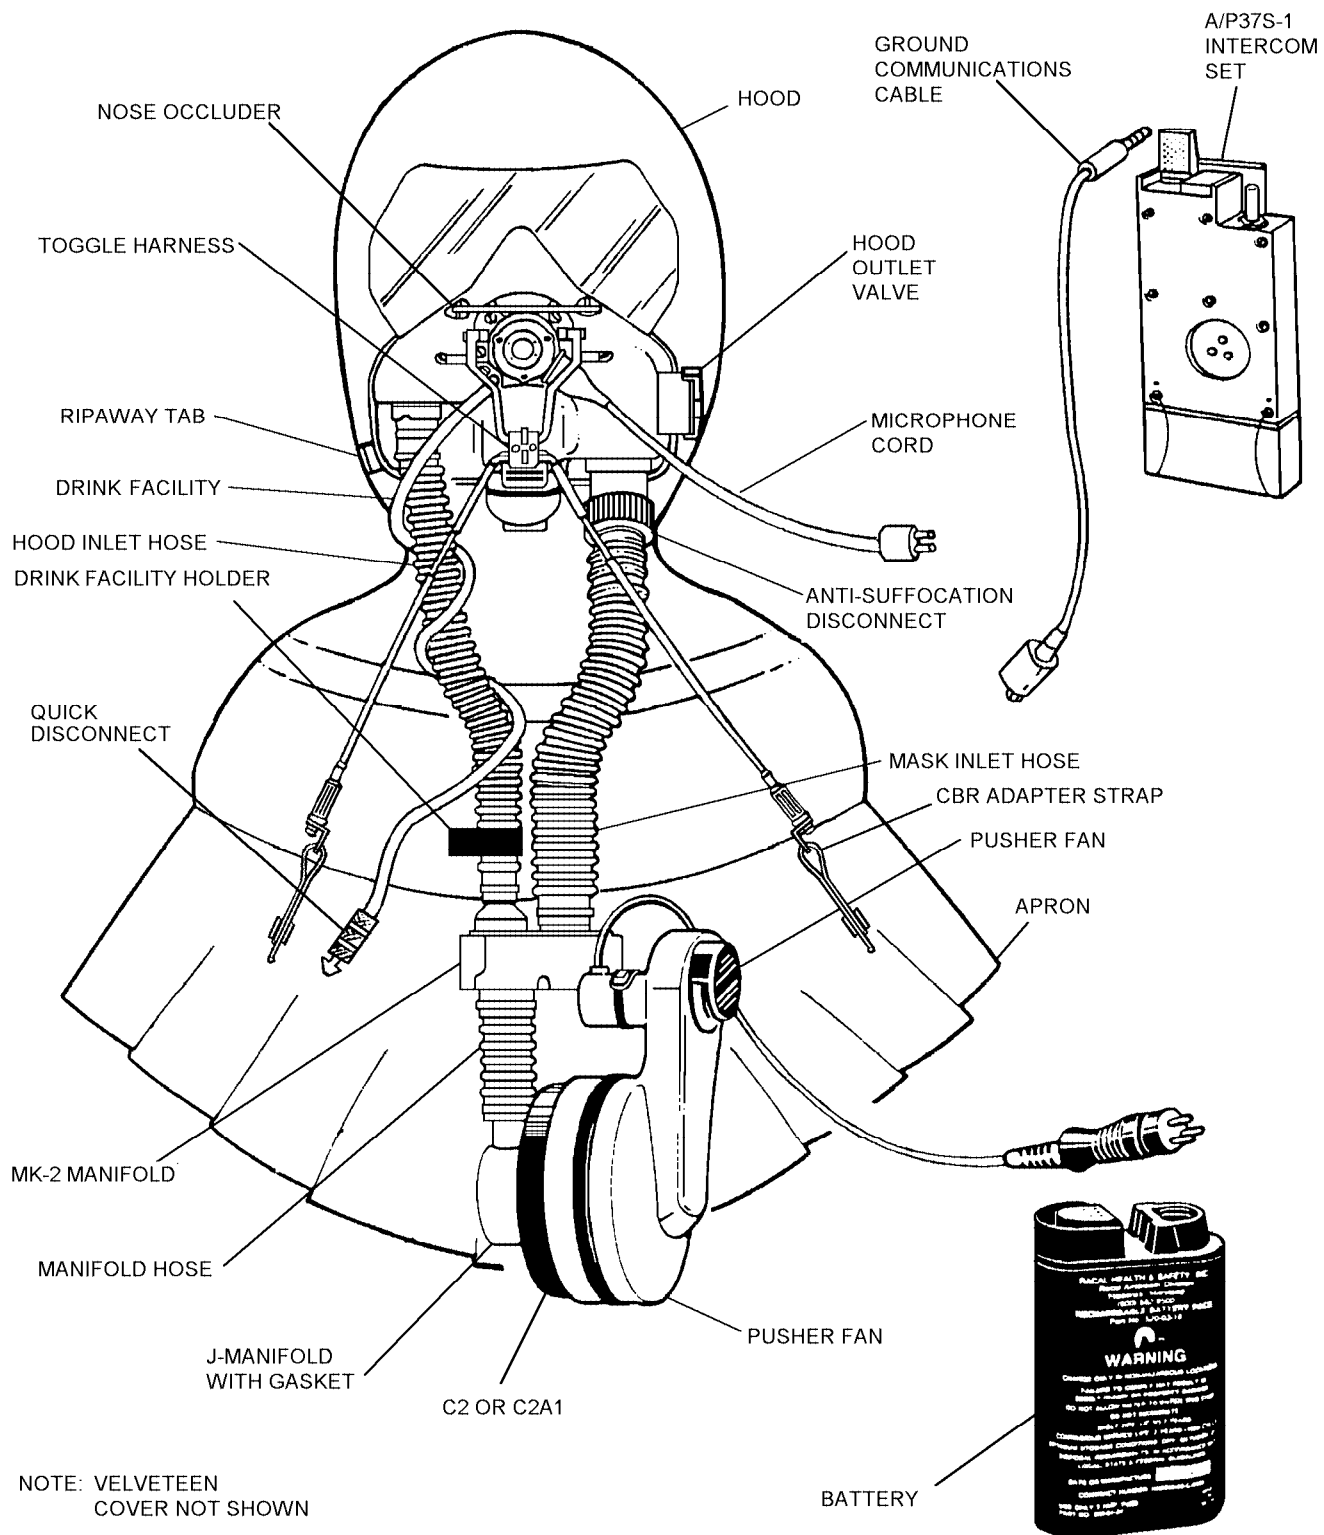

Figure 3-1. A/P23P-14A(V) Respirator Assembly (Upgrade), Non Oxygen
3-3. The Respirator Assembly is the above the neck portion of the chemical, biological and radiological (CBR) protective assembly. It is designed to provide aircrewmembers with the necessary head, eye, and respiratory protection to guard against the toxic and lethal effects of nuclear fallout and chemical and biological agents. During in-flight and ground operations, the respirator fits beneath standard issued helmets and protective equipment with a minimum of interference (figure 3-1).
3-4. The Pusher Fan provides the aircrewmember with a blown and filtered air supply (figure 3-1).
3-5. The A/P37S-1 Intercom Set provides the aircrewmember with direct voice communication while wearing the respirator and protective helmet (figure 3-1).
3-7. The A/P23P-14A(V) Respirator Assembly is shown in figure 3-1. There are no variants at this time.